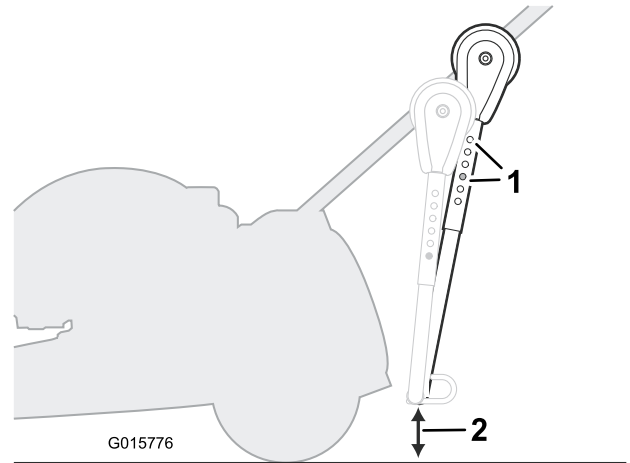

Figure 4
1. Angle the assembly as close to the mower as possible by moving the clamps up or down on the mower handlebars without hitting the mower or impeding the mower bagging system (Figure 4).